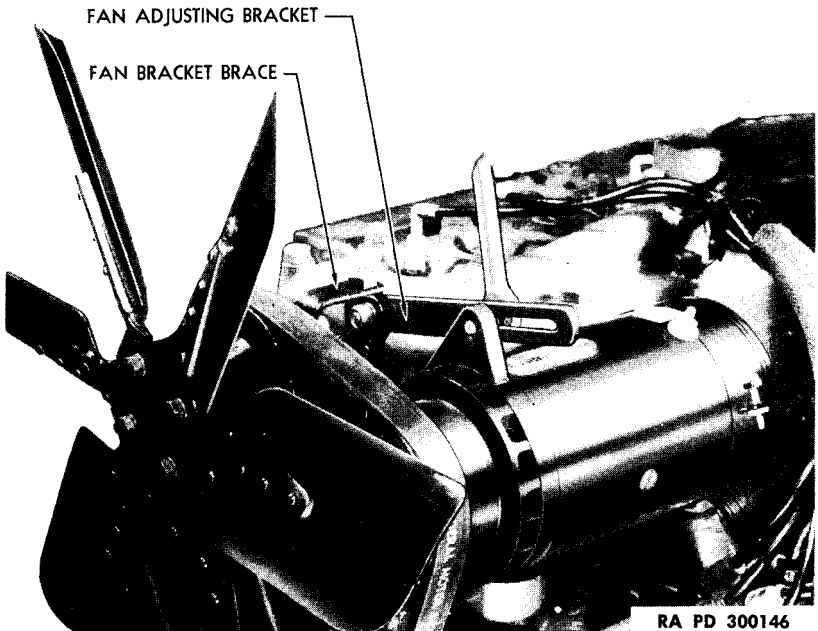

Figure 55—Adjusting Fan Belt Tension
(1) **FAN BELT ADJUSTMENT.** Loosen two generator to mounting bracket bolt nuts and then loosen generator to adjusting arm bolt (fig. 55). Move generator toward, or away from, engine as necessary to obtain correct belt tension. A light pressure on belt at a point midway between crankshaft and fan pulley must cause a $\frac{1}{2}$ - to $\frac{3}{4}$ -inch deflection (fig. 54). Do not adjust belt too tight. Tighten generator to adjusting arm bolt and then tighten the two generator to mounting bracket bolt nuts.